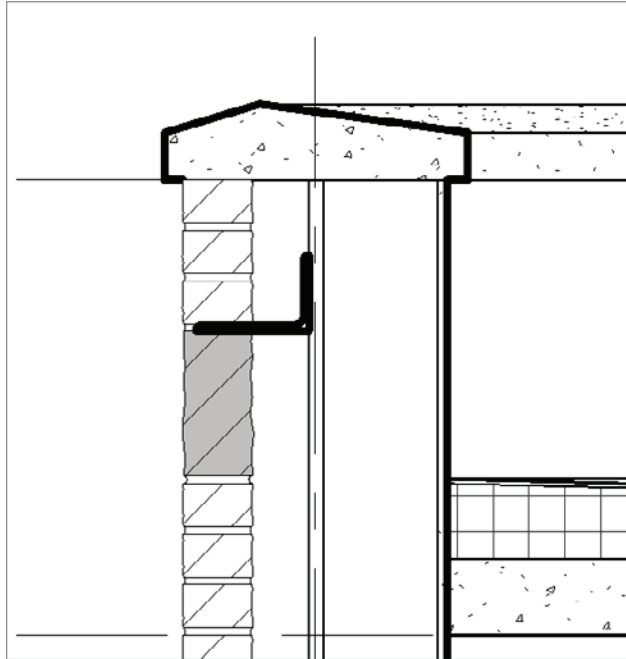

FIGURE 12.37 Placing the L6X4X5/16 angle
9. Place it into the model, as shown in Figure 12.37.